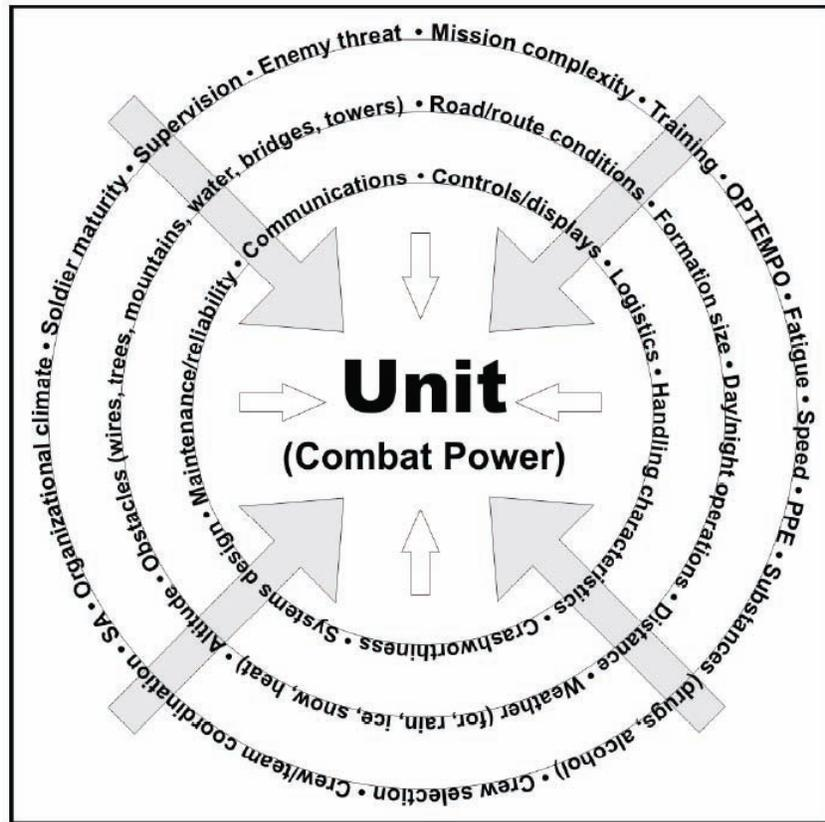

Figure 1-1. Composite risk management
a. Composite risk management (CRM) is the Army's primary decisionmaking process for identifying hazards and controlling risks across the full spectrum of Army missions, functions, operations, and activities. (See figure 1-1.)